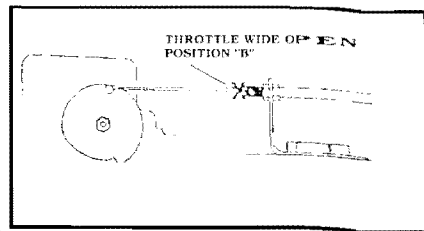

Figure 5
- Depress accelerator pedal and make a mark on the throttle cable when the throttle is in the wide open position. **Figure 5**